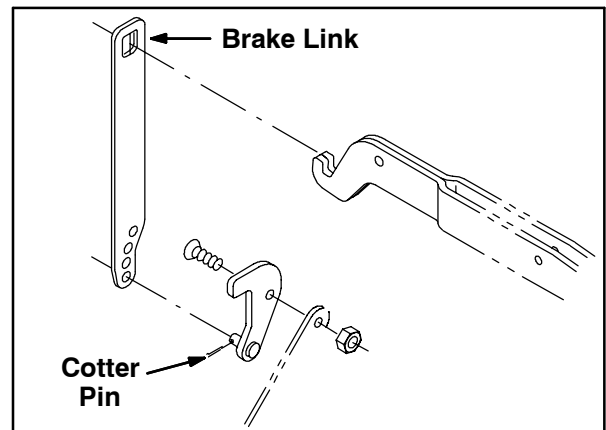
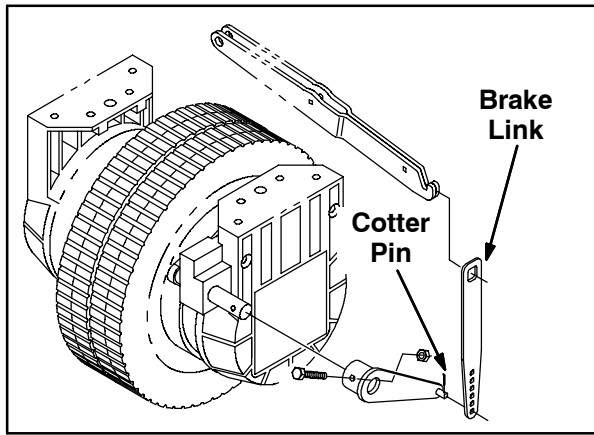

FIG. 21-Older Machines
FIG. 22-Newer Machines
32. Reinstall the brake link onto the side of the drive assembly and reinstall the cotter pin to secure the brake link onto the drive assembly. Refer to Fig. 21 or Fig. 22.